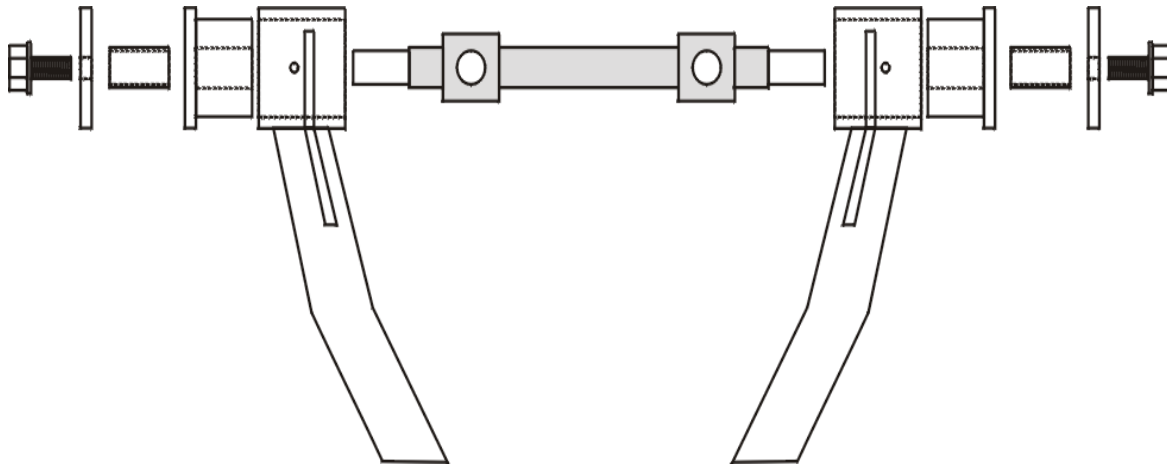

FIGURE 1
7. Support the cross shaft in a vise. Using the supplied silicon lube, lubricate one bushing and one inner sleeve. Slide the inner sleeve onto the cross shaft, then the bushing (with the lip facing outward), followed by the outer washer as shown in figure 1. Apply loctite to the threads of the cross shaft and torque the end bolt to factory specifications. Thread a grease fitting into each bushing end of the UCA.